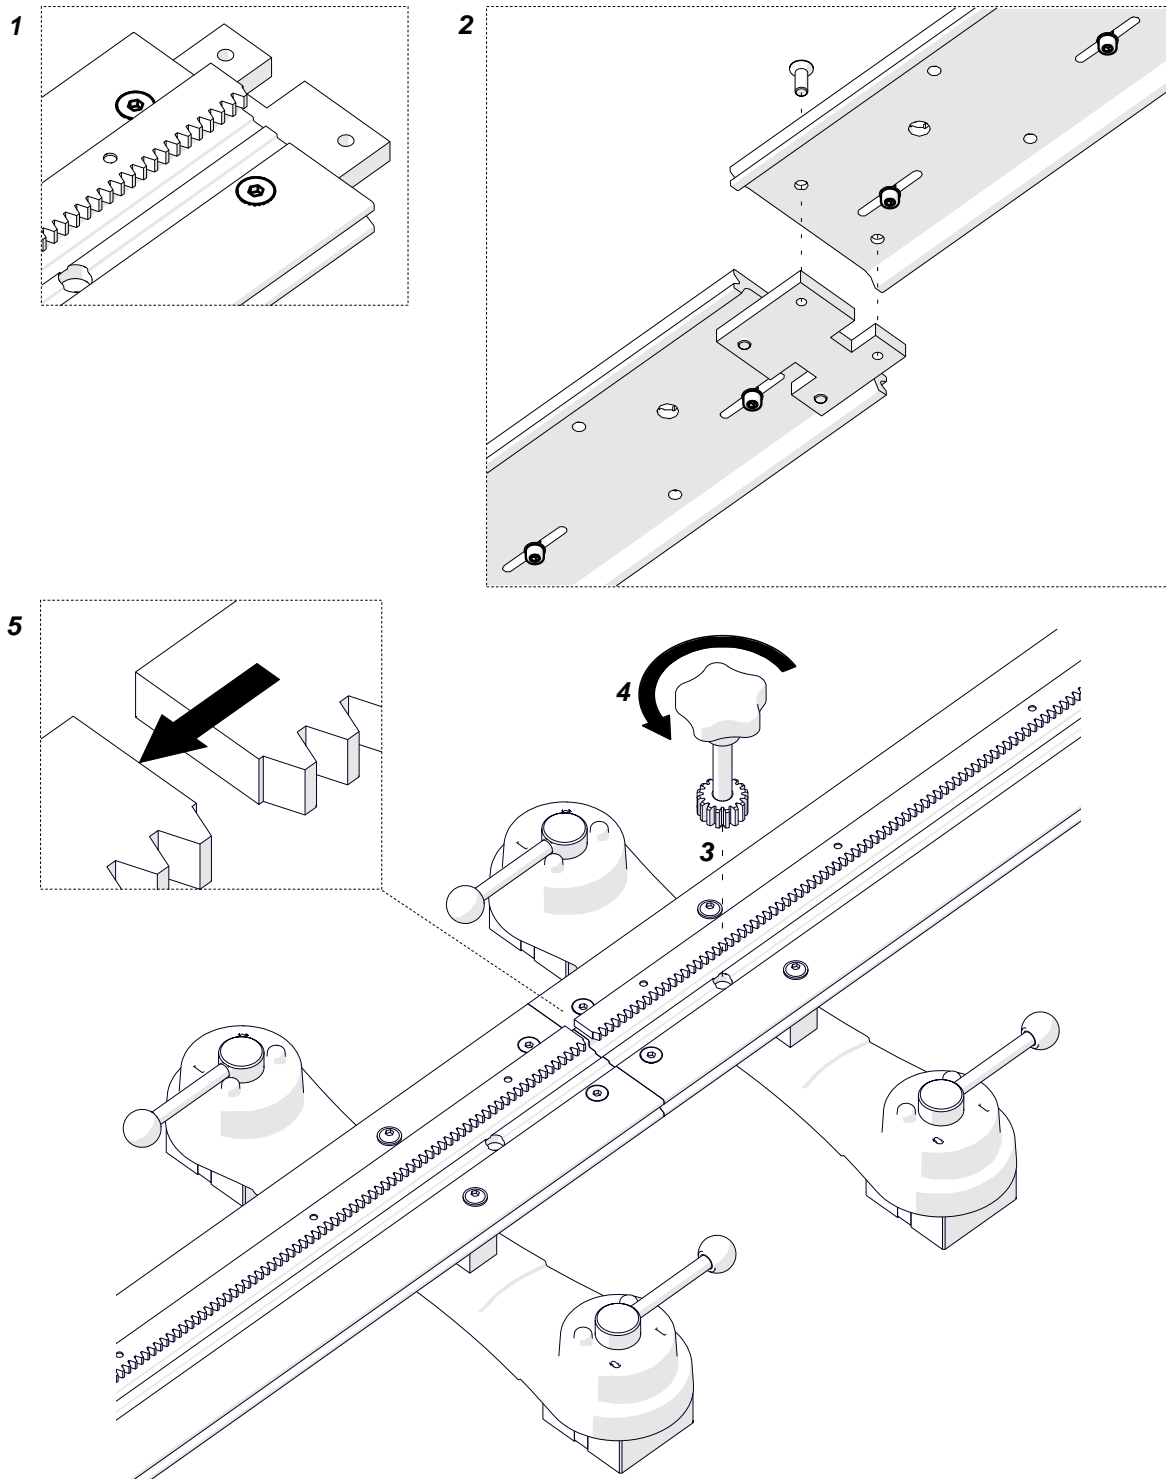

Fig. 2. Removing the gap between the racks of a semi-flex track
If a semi-flex rail is put on a curve, before you attach more rails use the 4 mm hex wrench to loosen the screws of the connecting plates (1, Fig. 2) and of the racks (2). Next, attach the rails, clamp them with levers, and then tighten the connecting plates. Put the rack adjustment tool (not included) into the hole (3), and rotate the tool to the